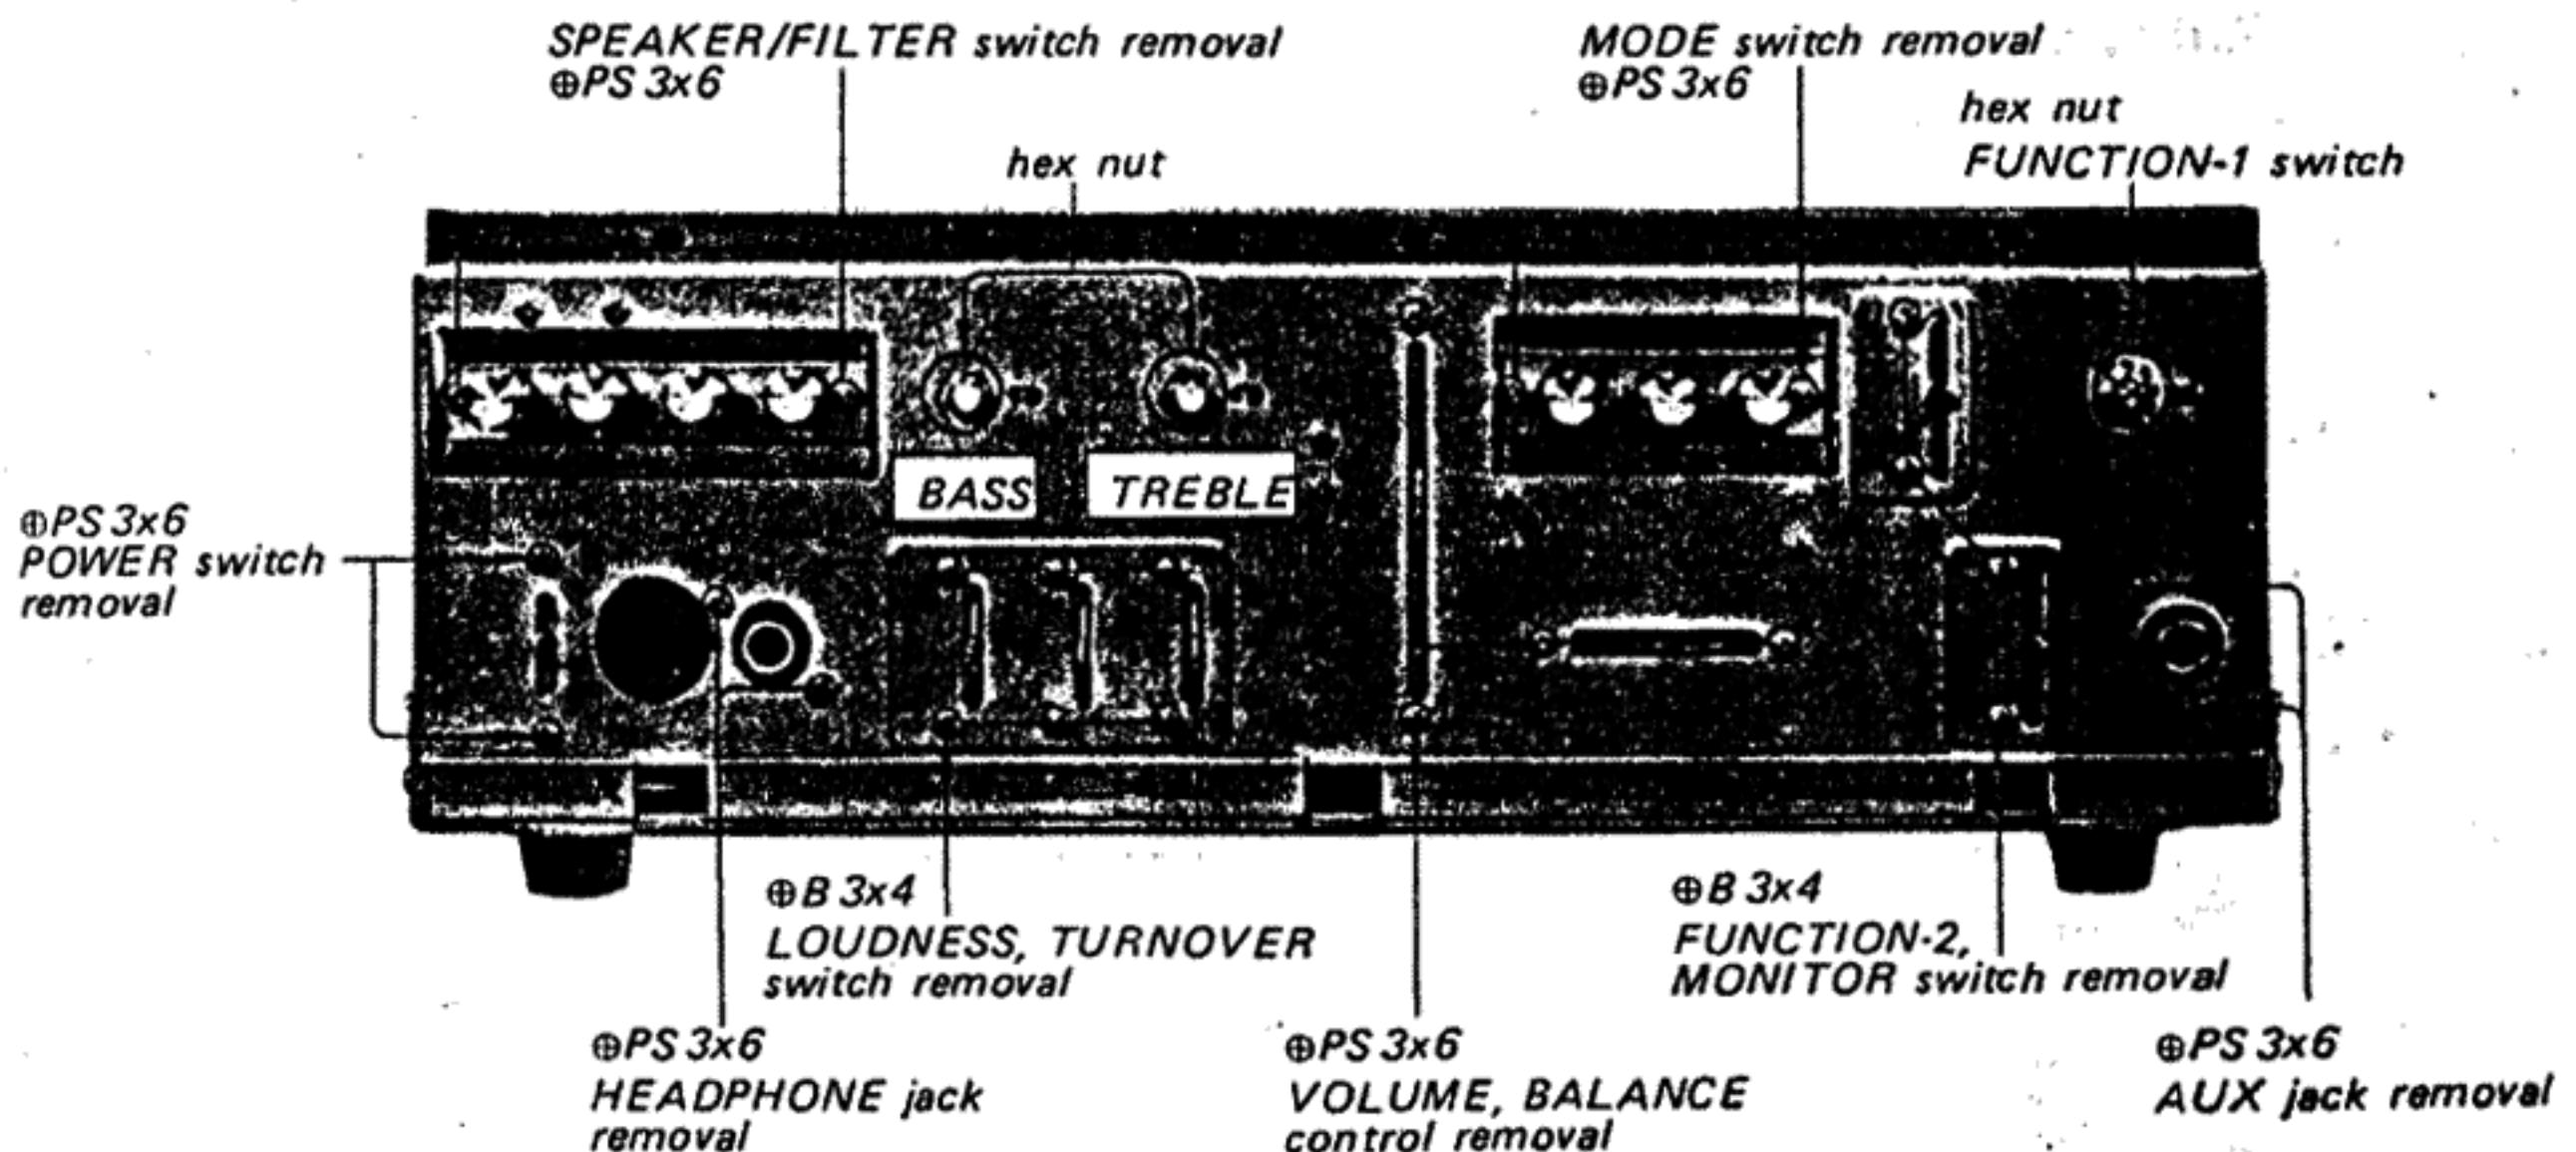

Fig. 2-5. Control and switch replacement
1. Remove the two screws securing switches to the front subchassis as shown in Fig. 2-5.
1. Remove the hex nuts that secure BASS and TREBLE controls to the front subchassis as shown in Fig. 2-5.
1. Remove the hex nut that secures FUNCTION-1 switch to the front subchassis as shown in Fig. 2-5.
2. Remove the two screws (\oplus PS 3x6) securing the combination switch to the front subchassis as shown in Fig. 2-5.
1. Remove the two screws (\oplus PS 3x6) securing the control to the front subchassis as shown in Fig. 2-5.
1. Remove the two screws (\oplus PS 3x6) securing the control or jack escutcheon to the front subchassis as shown in Fig. 2-5.